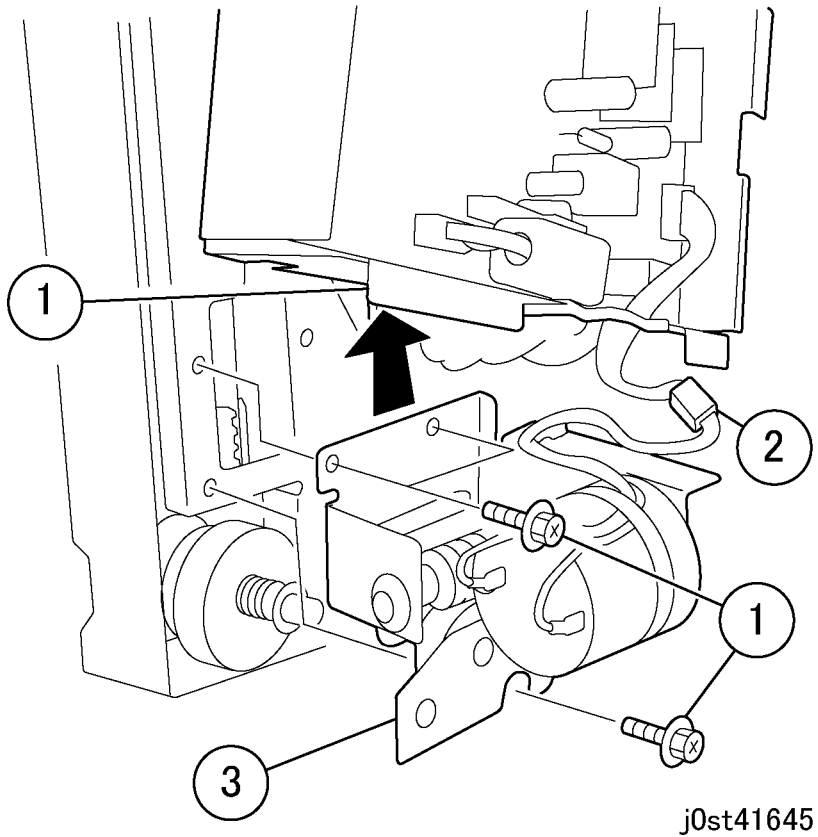

Figure 4 Removing the Staple Motor Assembly (j0st41645)
5. Remove the Stacker Motor Assembly. (Figure 4)